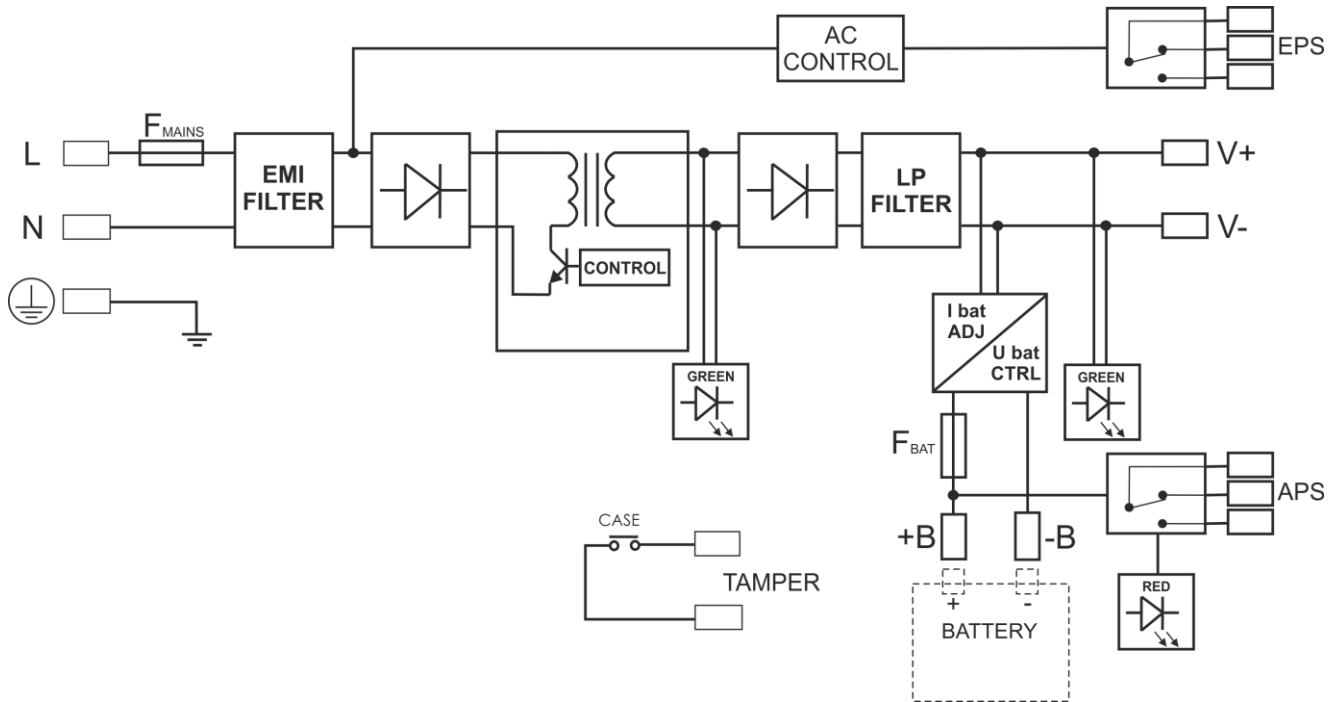

Fig.1. Block diagram of PSU.
**1.2. Block diagram (Fig.1).**